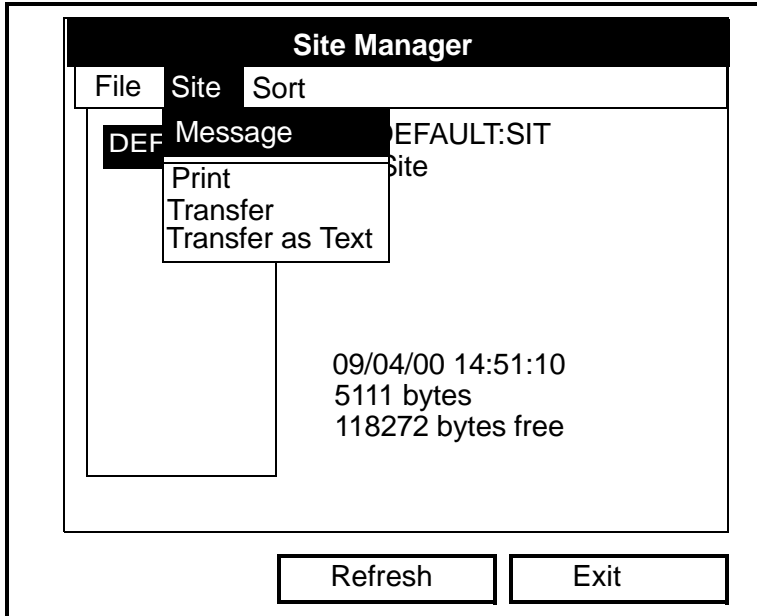

Figure 4-11: The Site Menu in the Site Manager
1. Press [MENU] to enter the File Menu. Then press the [▶] arrow key once to scroll from the File Menu to the Site Menu. Press [ENTER]. The screen appears similar to Figure 4-11 below.